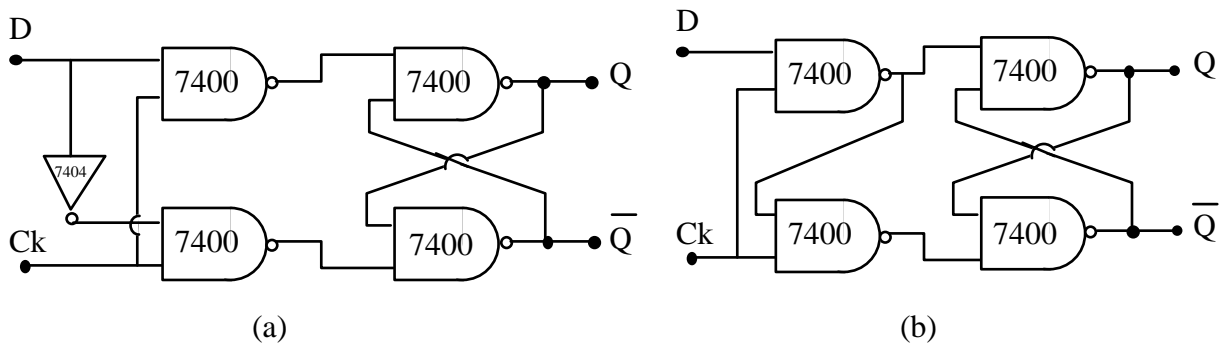

Fig.10 The D-Type Flip-Flop
The S-R type flip-flop can be used as a one-bit memory device if we provide it with a suitable input circuit. To enter information, one of the two inputs should go low (see part C above), whereas both inputs should be maintained high to keep the information (latch). The circuits shown below in Fig. 10, called D-type flip-flops or “latches”, are two possible solutions. They have a data input, D and a clock input, Ck. Investigate the functioning of both circuits - you may use *EWB* alone for this section.
a.) Recognizing that the S-R flip-flop sub-circuits of the two D-type flip-flops shown below in Fig. 10 are identical – i.e. only the front-end portions of the two versions of the D-type flip-flops differ – work out the truth-table for both of the D-type flip-flop circuits shown in fig. 10 to verify their equivalence.